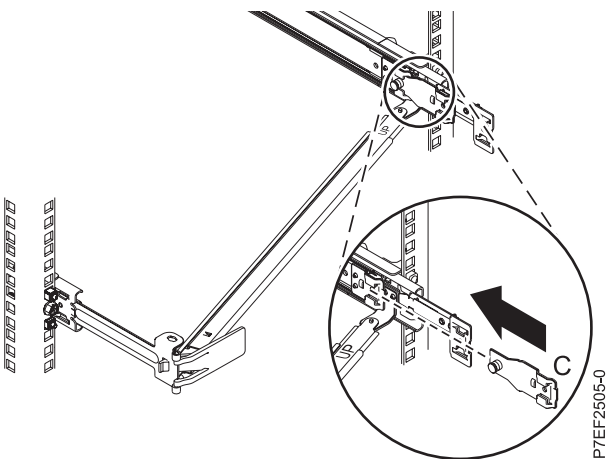

Figure 16. Installing the mounting bracket into the slide rail
5. Attach the mounting bracket (C) to the slot on the inside of the right slide by sliding the mounting bracket (C) into the slide rail until the spring-loaded pin snaps into place, as shown in Figure 16.